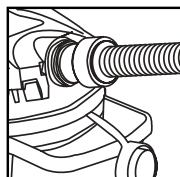

FIGURE 35
57. This vacuum can be used as a powerful blower. To use your unit as a blower unscrew blower port cover located on the backside of the motor housing. **FIGURE 35.**